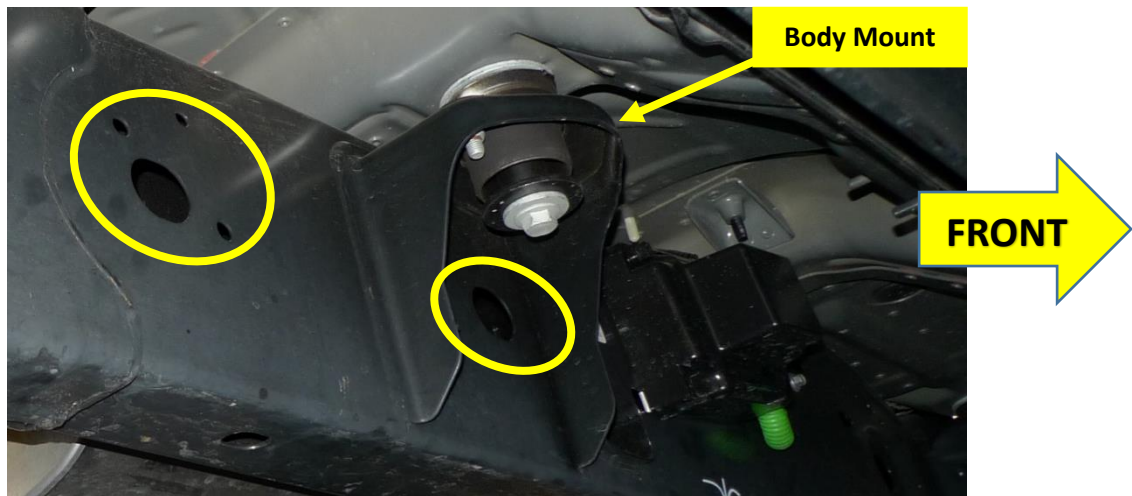
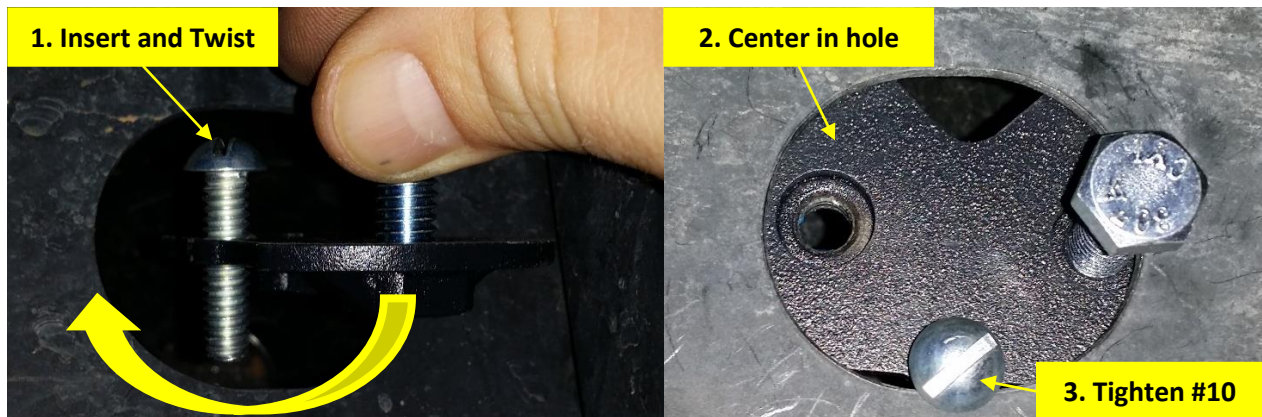

Figure 9 - Frame Hole Locations for RAPTOR-203; below front door
Figure 12 - RAPTOR-203 Insertion Method and Tightened to Frame.
10.1.1. Locate two large oval holes on passenger side frame rail, under front door, as shown in Figure 9 below.
10.1.4. Rotate both RAPTOR-203 (Nut Plate) through frame holes circled in **Figure 9** above. **Use care not to drop Nut Plate inside frame.** Follow Figure 12 below on insertion method.